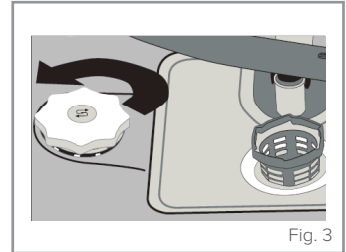

Fig. 3
1. Remove the lower dishwasher basket and then unscrew the salt compartment cap, as shown in Fig. 3 (page 11).